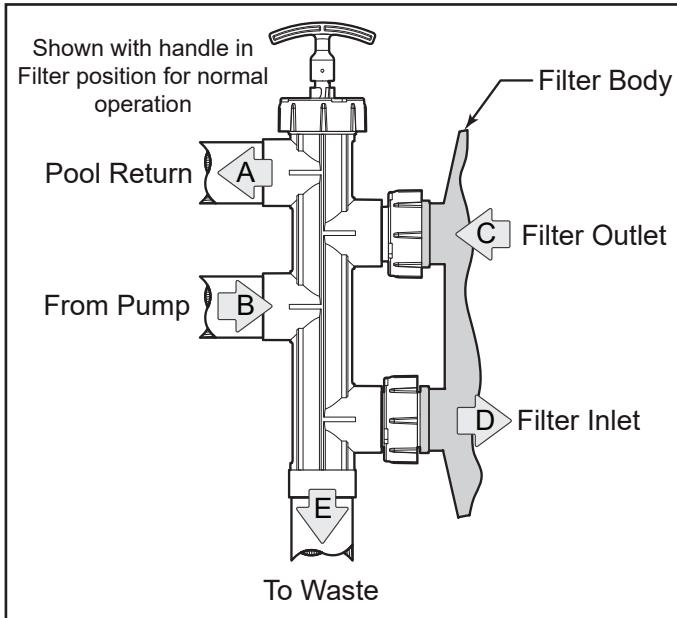

Figure 7. SVLV8 Installed
9. Hold the slide valve upright and place onto the filter bulkheads. See Figure 7.
7. Return the slide valve handle to the normal operating position. See Figure 7.